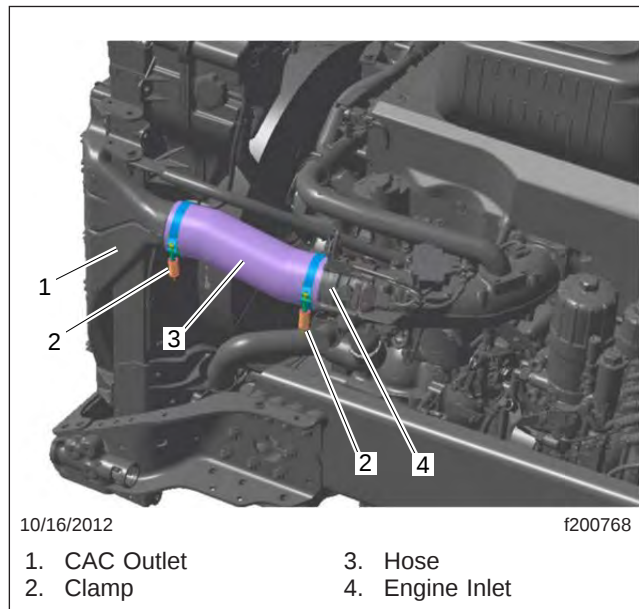

Fig. 3, CAC Plumbing, CAC-to-Engine Inlet
6. Remove the CAC plumbing at the CAC outlet and the engine inlet. See Fig. 3.
34. Install the CAC plumbing at the CAC outlet and the engine inlet. See Fig. 3.